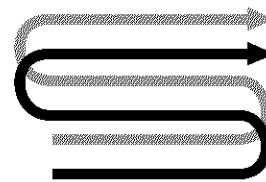
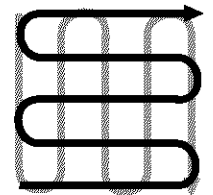

Figure 4-6
Figure 4-7
- When preparing a seedbed, go over the same path twice in the first row, then overlap one-half the tiller width on the rest of the passes (see Figure 4-6). When finished in one direction, make a second pass at a right angle, as shown in Figure 4-7. Overlap each pass for best results (in very hard ground, it may take three or four passes to thoroughly pulverize the soil.)